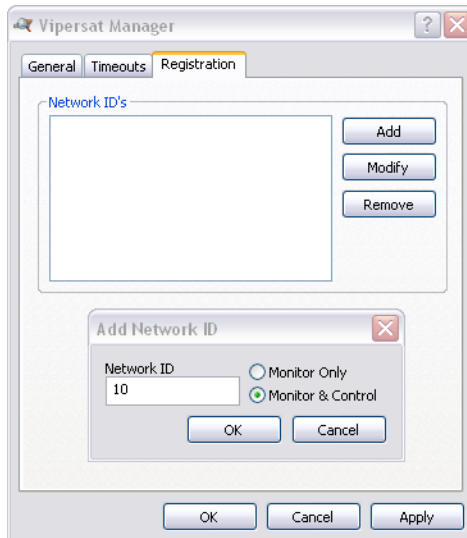

Figure 3-9 Vipersat Manager, Registration tab
15. Select the Registration tab shown in figure 3-9 and click the **Add** button to add the **Network ID** number (any number between 1 – 255) that will identify this network. This number must match the Network ID established in the modems for this network.